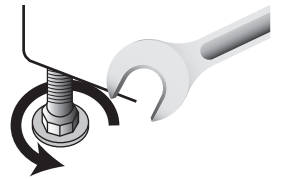

Figure 6
**5** If range height adjustment is necessary, use a wrench to loosen the four leveling feet and adjust as necessary, using a level for best results. If height adjustment is made when range is standing, tilt the range back to adjust the front legs, then tilt forward to adjust the rear legs. (See Figure 6)